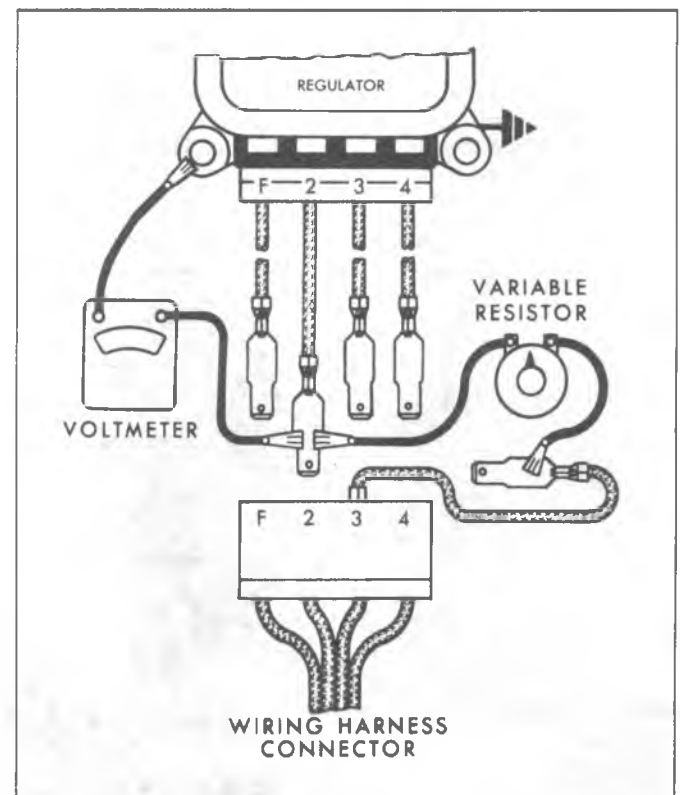

Fig. 8c—Field Relay Closing Voltage Test
1. Make connections as shown in Figure 8c using a 50 ohm variable resistor.